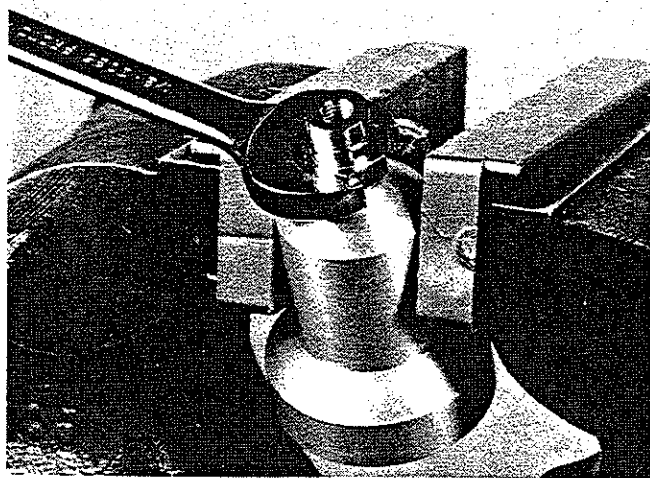

FIGURE 24
- Using a padded vise (see Fig. 24), secure CARTRIDGE in place to facilitate removal of the mounting cap. With a $\frac{1}{2}$ " open end wrench, remove the mounting cap, then the poppet stem and return spring.